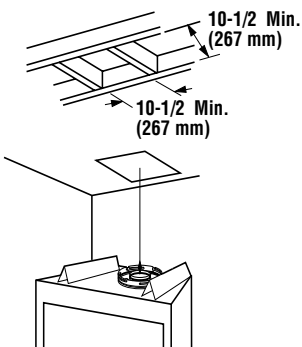

Figure 21
A. Frame ceiling opening - Use a plumb line from the ceiling above the appliance to locate center of the vertical run. Cut and/or frame an opening, 10-1/2" x 10-1/2" (267mm x 267mm) inside dimensions, about this center mark (**Figure 21**).